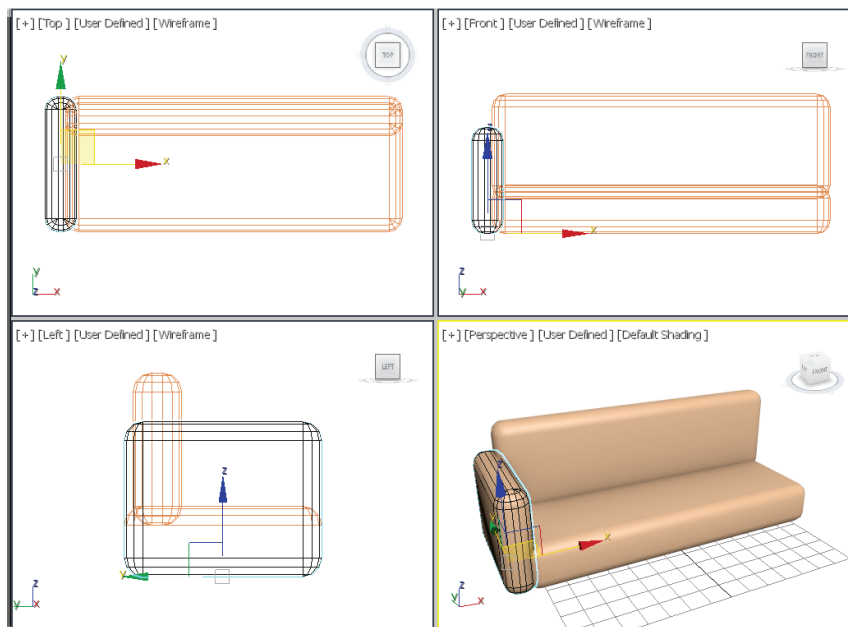

Figure 3-24 The another chamfer box displayed in the viewports
2. Choose the **Create** button; another chamfer box is created, as shown in Figure 3-24.